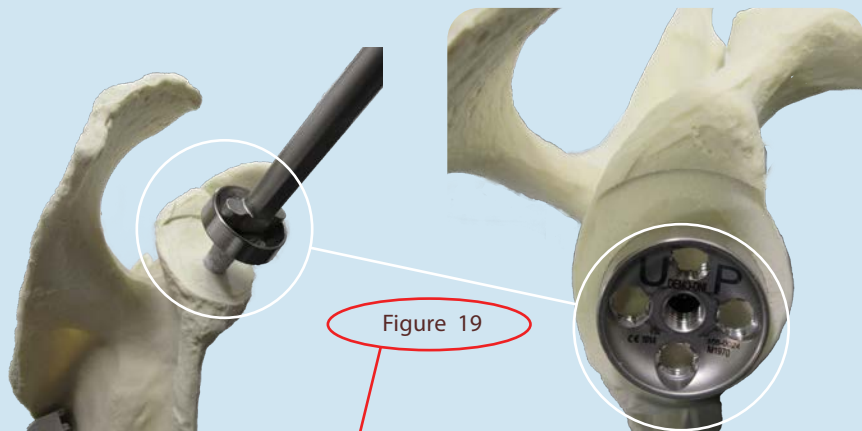

Figure 19
STEP 14: OPTION 1 BASEPLATE WITH A POST (Figure 19)